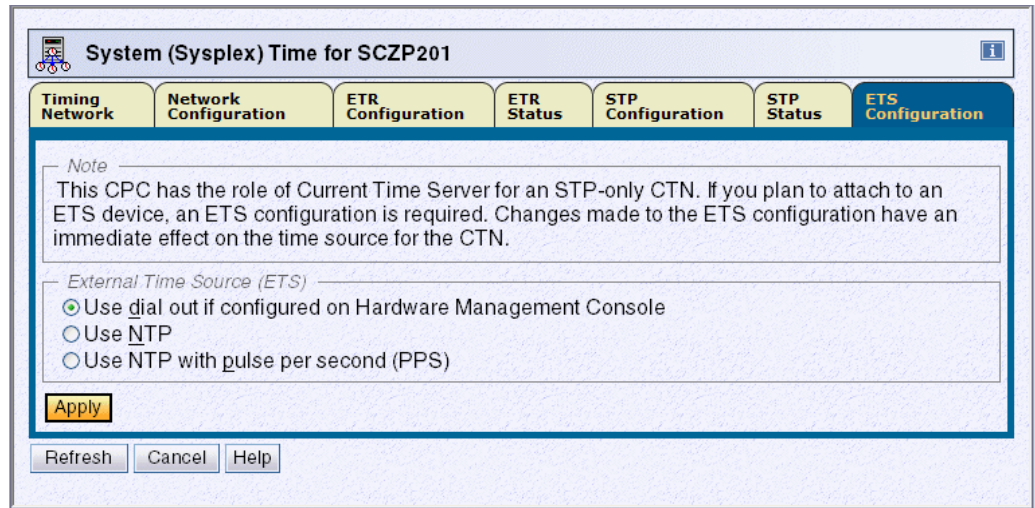

Figure 1-62 ETS Configuration tab - Use dial out
1. To select the servers to be set up, click **Configuration** → **System (Sysplex) Time** from HMC Workplace, and select the **ETS Configuration** tab (Figure 1-62).